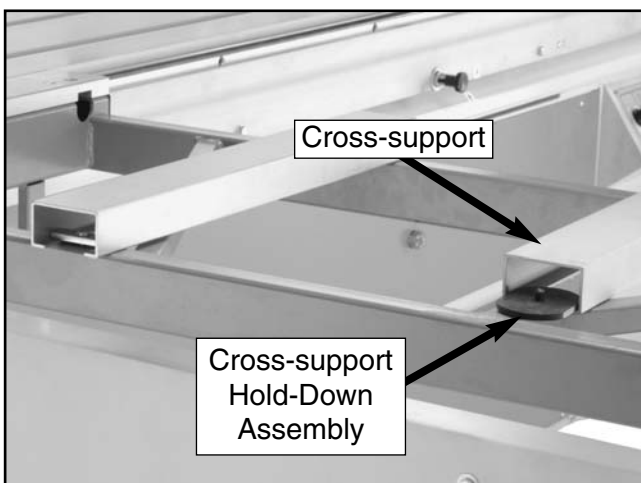

Figure 48. Cross-support assemblies.
5. Remove both end caps from the short cross-support and remove one end cap from the long cross-support as shown in **Figure 48**.